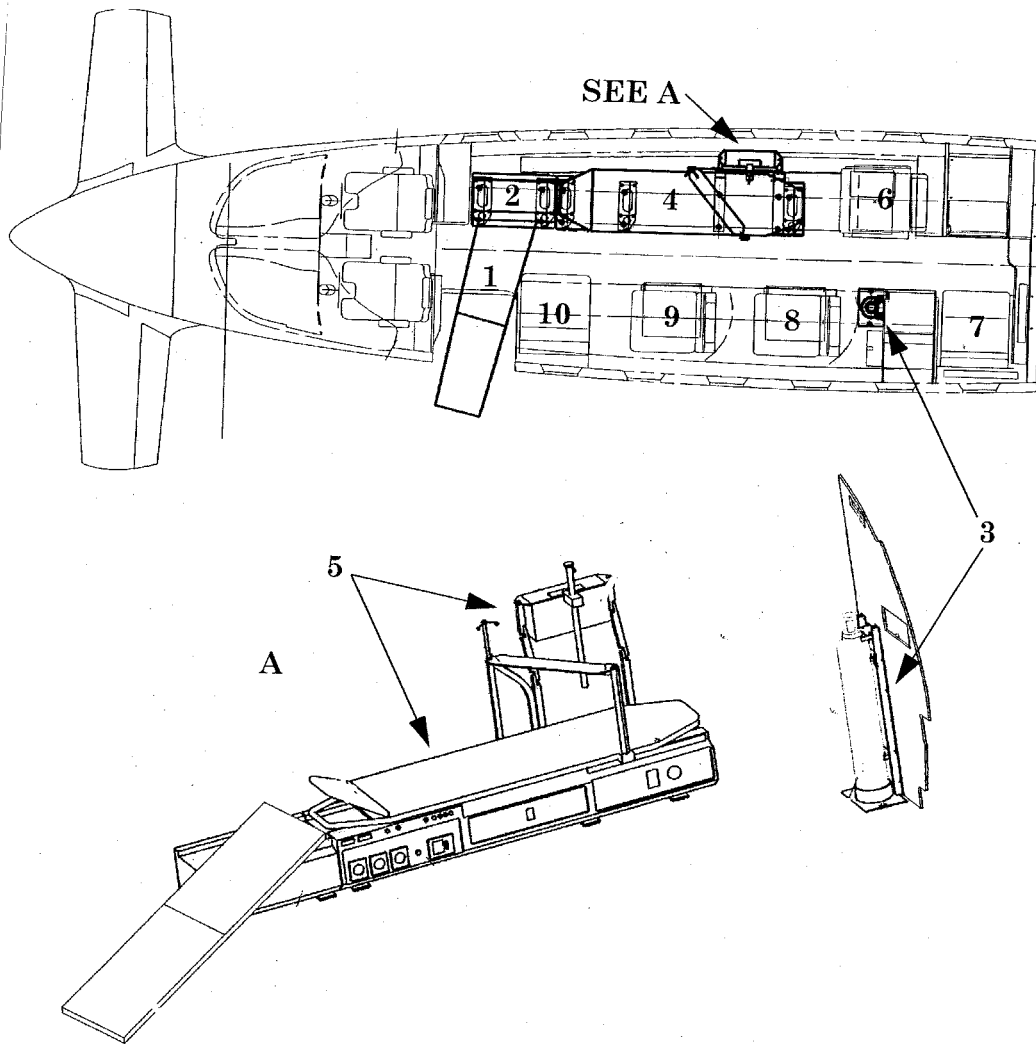

Fig. 10 - Option 20" AMBULANCE Configuration
K. The option # 20 "AMBULANCE" - LifePort Inc. Piaggio Kit P/N 80-909827-803) passenger compartment (Ref. to Fig. 10).